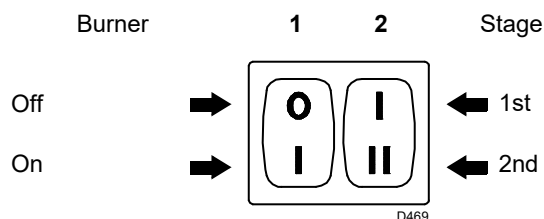
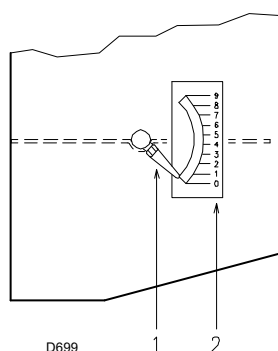
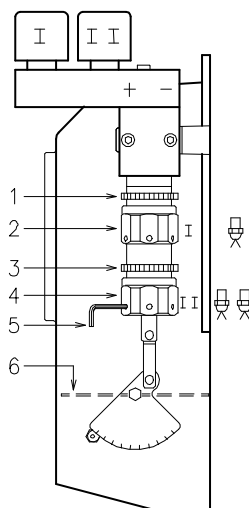

Fig. 22
Fig. 23
Fig. 24
- Start the burner by closing the control devices and with switch 1)(Fig. 22 pag. 19) in the "ON" position. The pump must rotate in the direction of the arrow marked on the cover.
- The pump can be considered to be primed when the light oil starts coming out of the screw 3). Stop the burner: switch 1)(Fig. 22 pag. 19) set to "OFF" and tighten the screw 3).
Set switch 1) (Fig. 22) to "ON".
Keep the burner operating at 1st stage by setting the switch 2) (Fig. 22) to the 1st stage position. Opening of the air gate valve 6) (Fig. 24) must be adjusted in proportion to the selected nozzle: the index 1) (Fig. 23) must be aligned with the notch 2) (Fig. 23) specified in table (Tab. E) This adjustment is achieved by turning the hex element 2) (Fig. 24):
2.3 notch (Fig. 23) aligned with index 1).
When the adjustment is terminated lock the hex element 2) (Fig. 24) with the ring nut 1).
N° = Notch 2)(Fig. 23)
Set switch 2)(Fig. 22 pag. 19) to the 2nd stage position and adjust the air gate valve 6)(Fig. 24) by turning the hex element 4)(Fig. 24), after having loosened the ring nut 3) (Fig. 24).
in order to facilitate adjustment of hex elements 2) and 4) (Fig. 24), use a 3 mm Allen key 5) (Fig. 24).